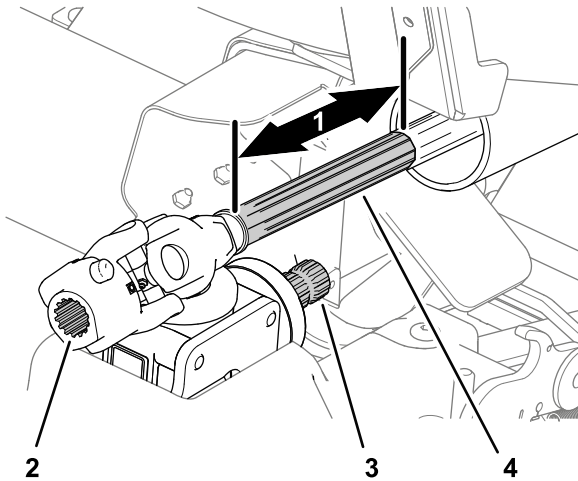

Figure 54
2. Pull the front half of the driveshaft (Figure 54) forward about 25 cm (10 inches).
3. Wipe clean the splines of the gearbox shaft and the splines of the driveshaft (Figure 54).
4. Wipe clean the sliding surface of the forward driveshaft (Figure 54).
5. Apply anti-sieze compound to the splines of the gearbox shaft and U-joint coupling (Figure 54).
6. Apply anti-sieze to the sliding surface of the forward driveshaft (Figure 54).